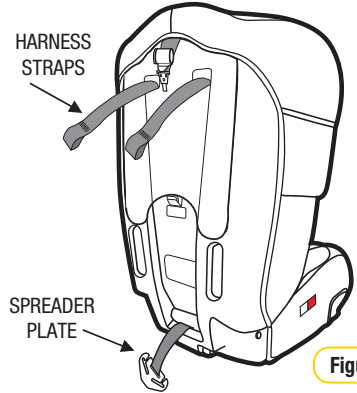

Figure 5
Step 6: Pass the shoulder straps through the slots of the headrest and backrest. Harness straps should protrude through the back of the restraint (refer Figure 5).